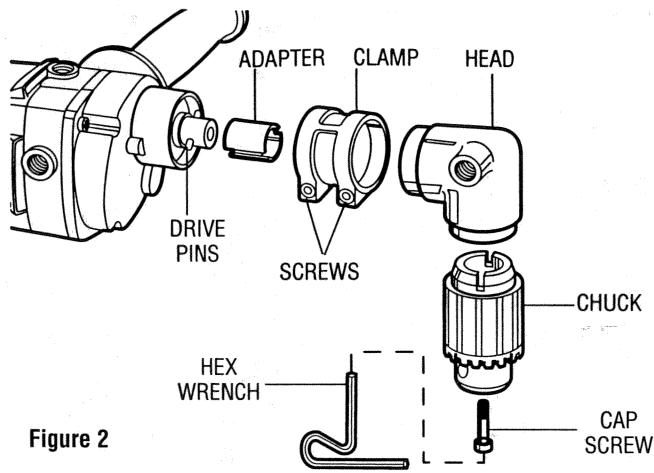

Figure 2
2. Loosen the forward clamping screw on the right angle head clamp shown in Figure 2, using the hex wrench provided. NOTE: It may be necessary to loosen both clamp screws.